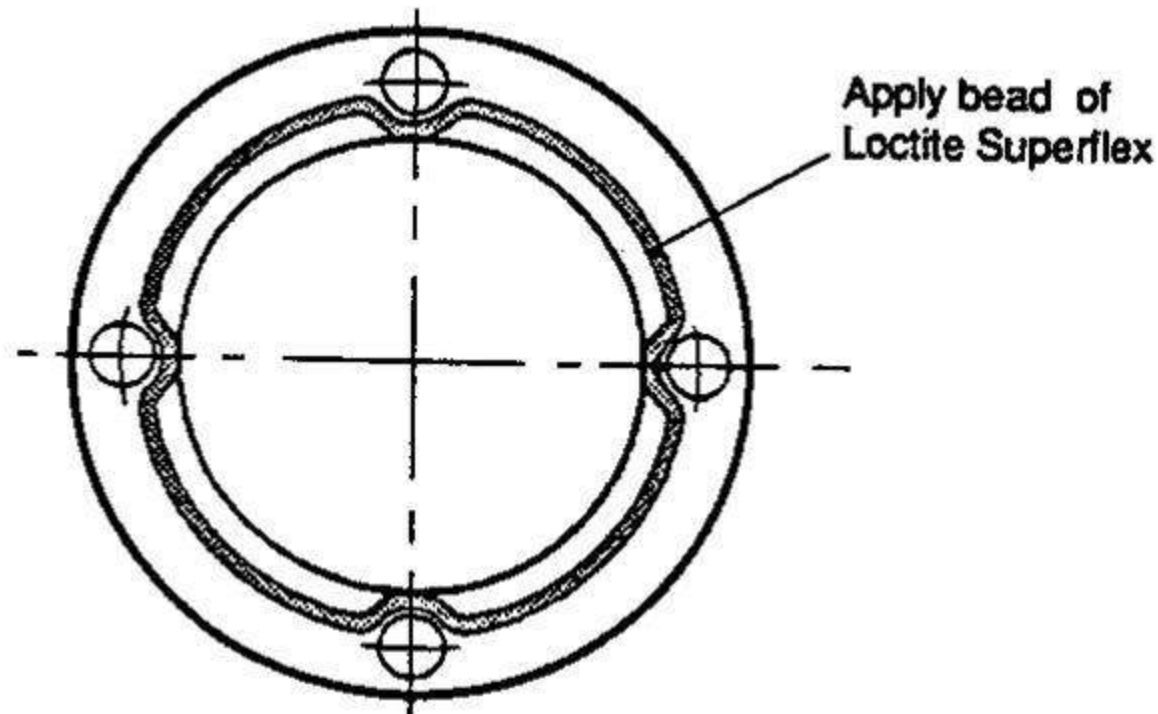

Fig. 7
- a) Smear inside of hub cap (53) with a thin (1/16" thick) film of grease (Shell Retinax LX or equivalent).
- b) Clean hub cap and hub mating faces (53 & 8) with Loctite Superclean Safety Fluid 706 or similar chlorinated cleaning fluid then apply a complete bead of Loctite Superflex or equivalent sealant to hub cap face. See fig 7.